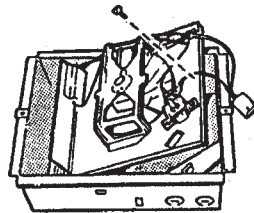

FIG. 2
2. Remove wiring cover from the corner of housing. (FIG. 2)
2. Quite la cubierta de cables de la esquina de la caja. (FIG. 2)